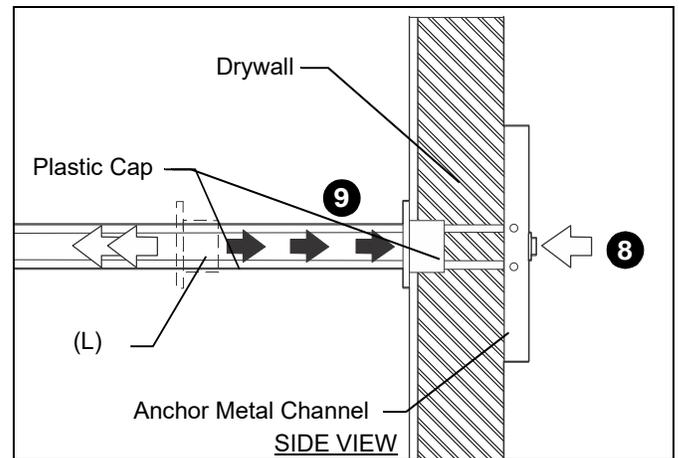

Figure 15
8. Holding plastic straps on anchor (L), pull anchor away from wall until channel rests flush behind wall making sure anchor channel is positioned vertically on stud. (See Figure 15)
9. Slide plastic cap on anchor (L) towards wall until flange of cap is flush with wall. (See Figure 15)